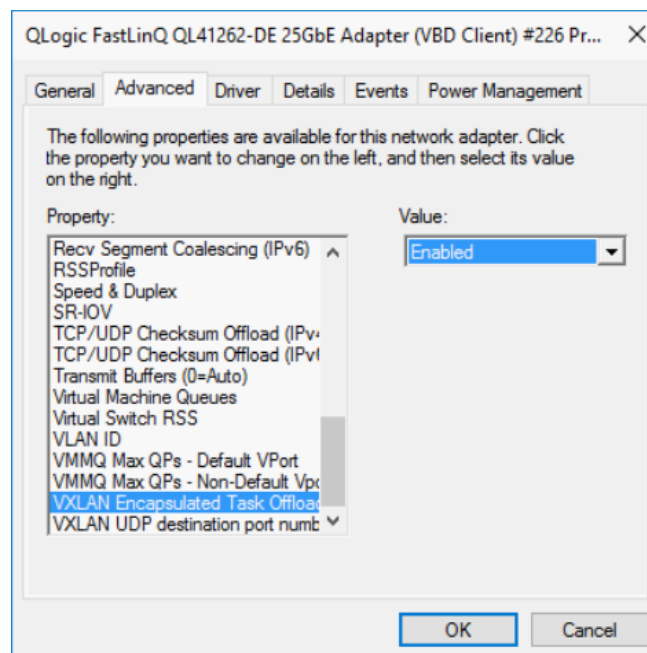

Figure 14-1. Advanced Properties: Enabling VXLAN
2. On the adapter properties' Advanced page (Figure 14-1) under **Property**, select **VXLAN Encapsulated Task Offload**.